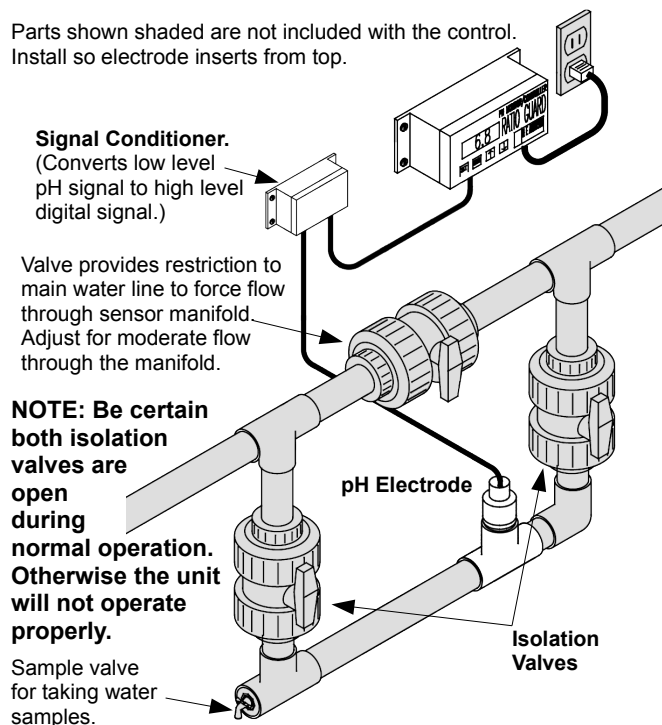

Figure 1. Installing the Controller
The recommended installation is shown in Figure 1. It can be varied to suit your needs, but remember the following:
- A sample valve (a hose bib will do) installed as shown in Figure 1. is a great convenience. It can also make electrode removal much easier by opening it to allow air to enter the line when removing the electrode.